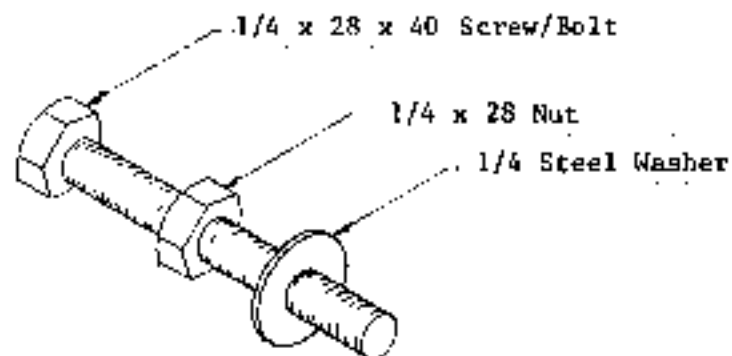

Fig. 4-12 Screw assembly
- (b) Insert a screw assembly (Fig 4-12) into end opposite rod end. Insert through the hole and tighten into plug (Fig 4-8 Item 1). Slide washer of screw assembly to shimmy damper housing and tighten the nut against the washer until resistance is felt, which indicates spring compression.